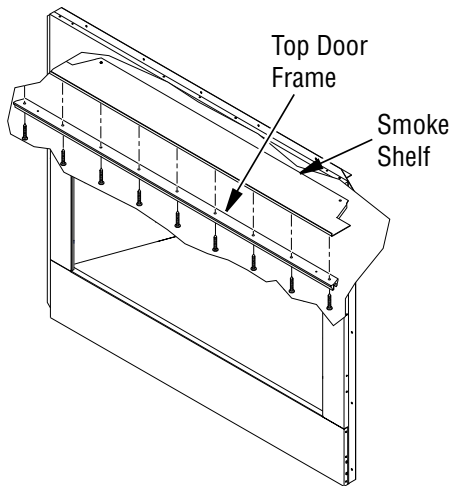

Figure 36 - Installing Top Door Frame
1. Remove screws from smoke shelf (see Figure 36).
2. Mount top door frame and secure with screws removed in step 1 (see Figure 36)..